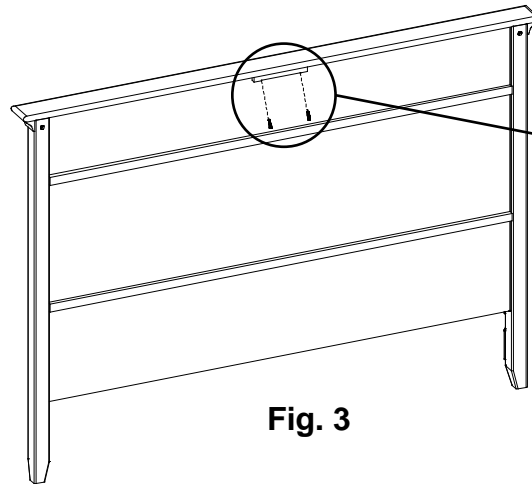

Fig. 3
3. Attach the Top Assembly (YH) to the Headboard Assembly (Aa) by inserting two #8x1-1/4" Pan Head Screws (YI) into the predrilled holes in the block that is attached to the Headboard Assembly (Aa). See Figures 3 and 3a.